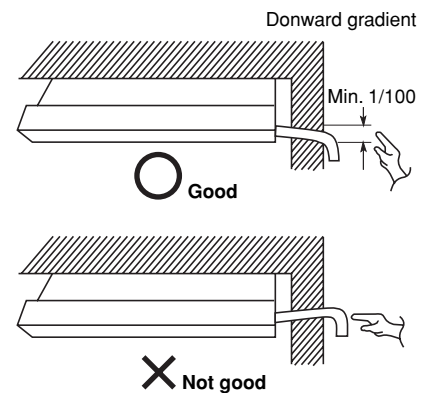

Fig. 3-107
(1) Drain hose connection
(2) Installing the drain hose
- Connect the drain piping so that it slopes downward from the unit to the outside. (Fig. 3-107)